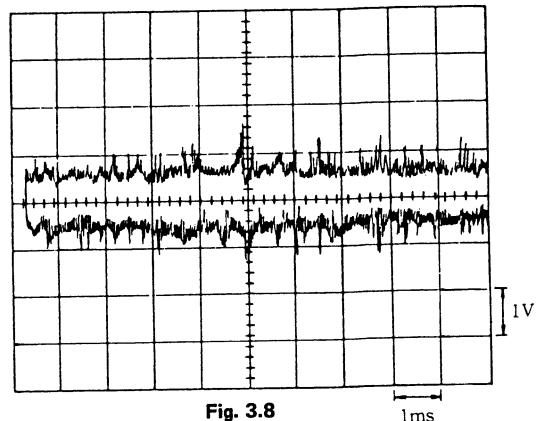

Fig. 3.8
- (1) Load the Philips Test Sample 5 test disc (non-scratched), observe the noise voltage on the voltmeter, and adjust VR103 so that the noise voltage on TP103 (Tracking) and TP102 (GND) is 0.26V RMS  $\pm 0.01V$  (Fig. 3.8).